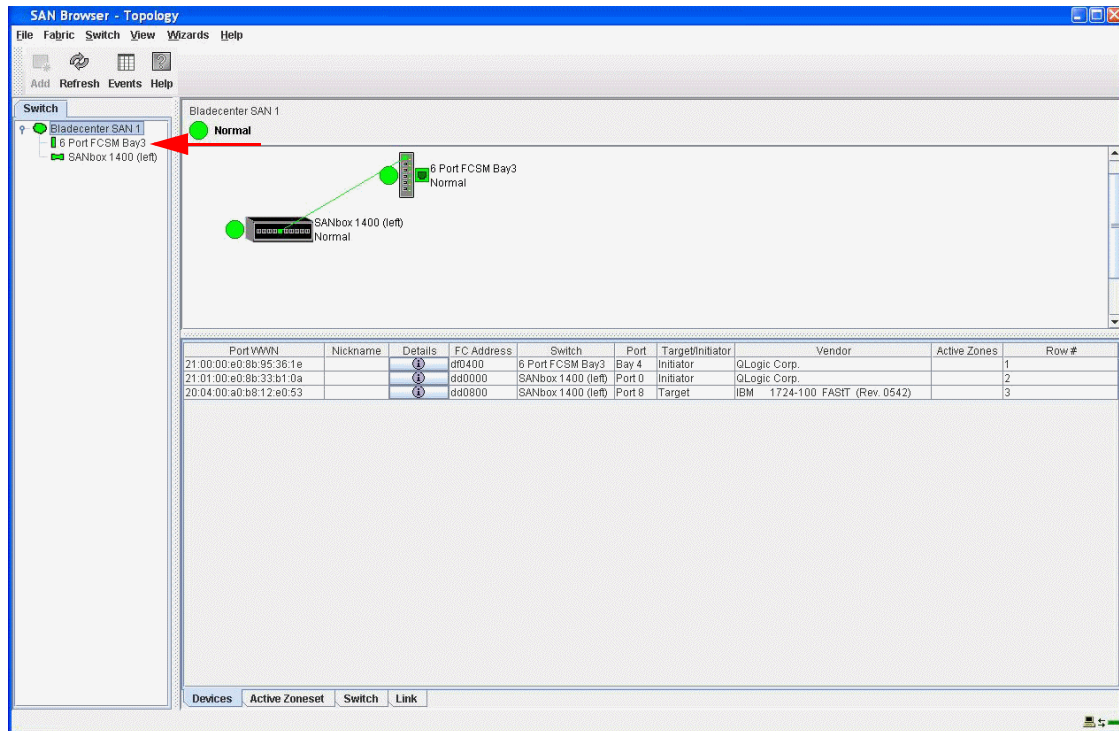

Figure 9-16 Topology window
4. Click **OK**. You will see a window similar to Figure 9-16.